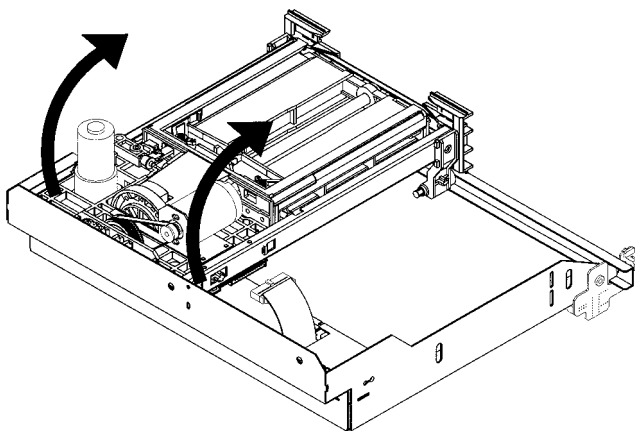

Figure 66: Rotating the Picker Assembly Out of the Translate Frame
10. Tilt up the rear end of the picker and slide it out toward the back (see Figure 66).